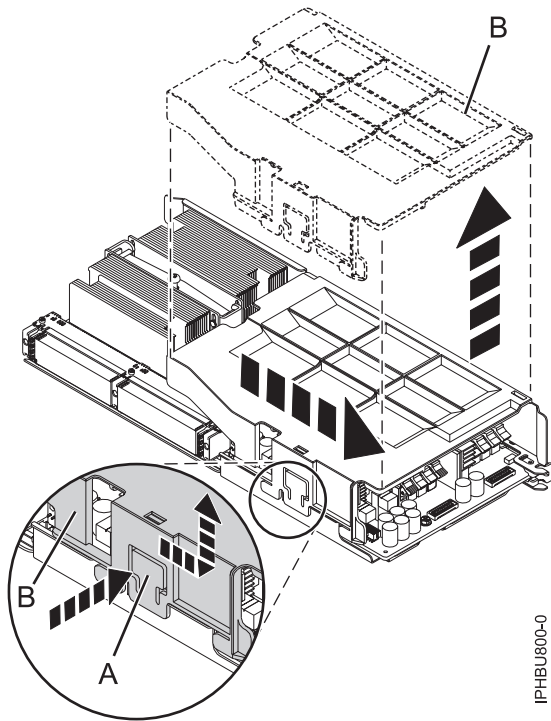

Figure 8. Removing the cover from the system processor
- If you have the cover shown in Figure 8 on page 10, push in tab (A), slide the cover (B) to the right, and remove.